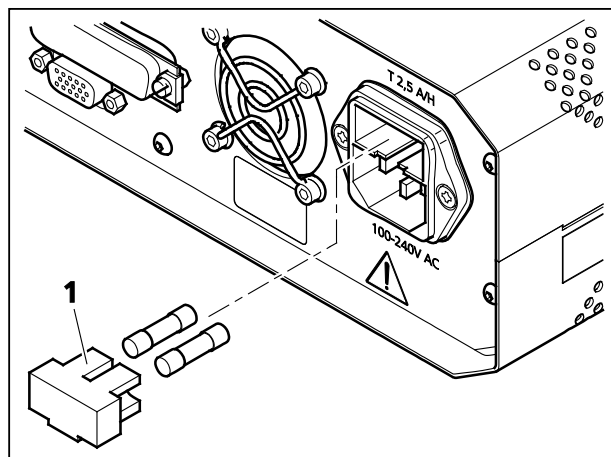

Fig. 8-1 Changing the fuses of the control unit
- Pull the fuse holder (Fig. 8-1/1) out of the fuse compartment.